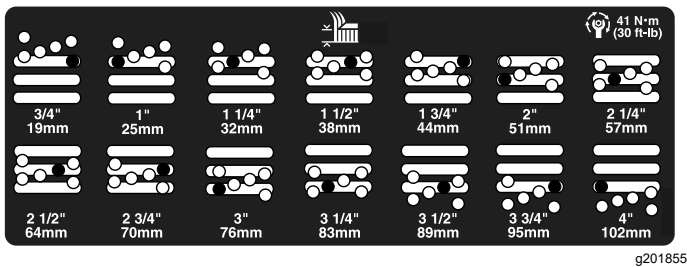

Figure 21
5. Move the chamber to the desired height of cut and install a spacer into the designated height-of-cut hole and slot (Figure 21).